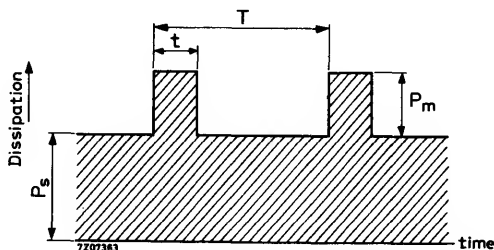

Fig. 3.
b. Pulse conditions (see Fig. 3)